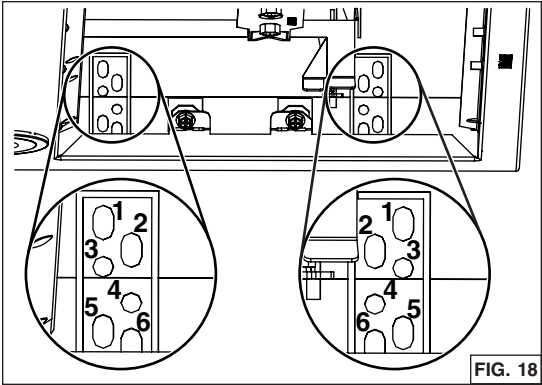

FIG. 18
3. Lift the unit until contact is made between the unit flange and cabinet. Secure the unit to the cabinet using 4 no. 8 x 5/8" wood screws included in parts bag (2 screws per side). Use upper or lower holes (1, 2, 3, 4, 5, or 6) (FIG. 18).